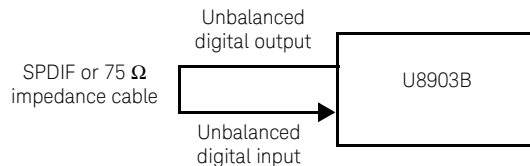

Figure 4-8 U8903B unbalanced digital output to its own unbalanced digital input for unbalanced input sampling rate accuracy verification
- 11 Connect the U8903B unbalanced digital output to its own balanced digital input using the SPDIF or 75 Ω impedance cable as shown in **Figure 4-8**.